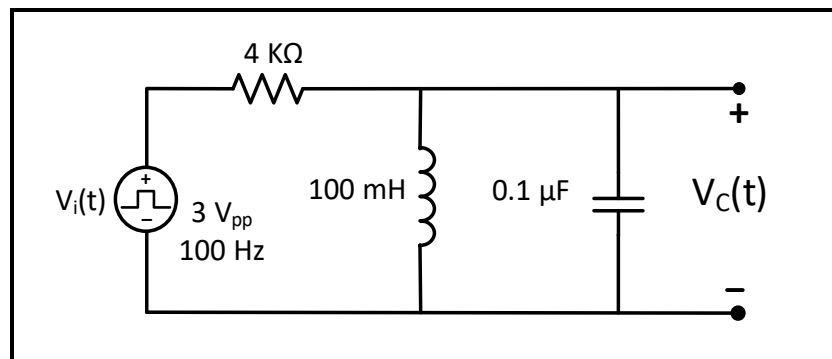

Figure 6.6
For the circuit of Figure 6.6:
1. Connect the circuit in Figure 6.6, keeping the previous setting of the function generator (Square wave output, 3 V_{pp}, DC offset 1.5 V, $f = 100$ Hz), (Use decade box for R).